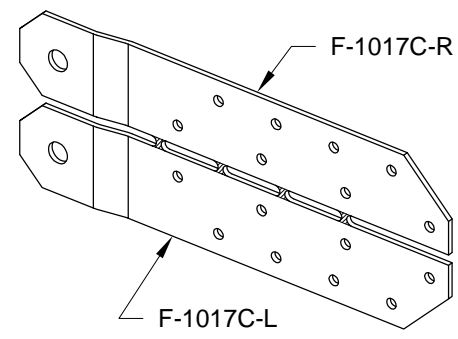
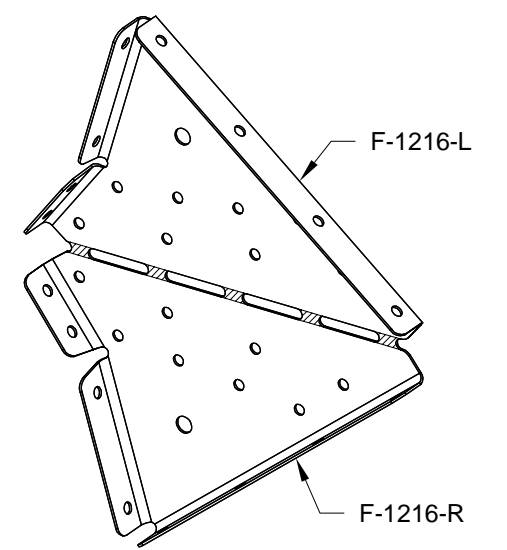

FIGURE 3: SEPARATE F-1017C SEAT BELT ATTACH LUG
FIGURE 4: SEPARATE F-1216 SEAT BELT ATTACH LUG SUPPORT
Step 6: Separate the four F-1017C Seat Belt Attach Lugs, shown in Figure 3, and the two F-1216 Seat Belt Attach Lug Supports, shown in Figure 4, by removing the hatched areas shown.